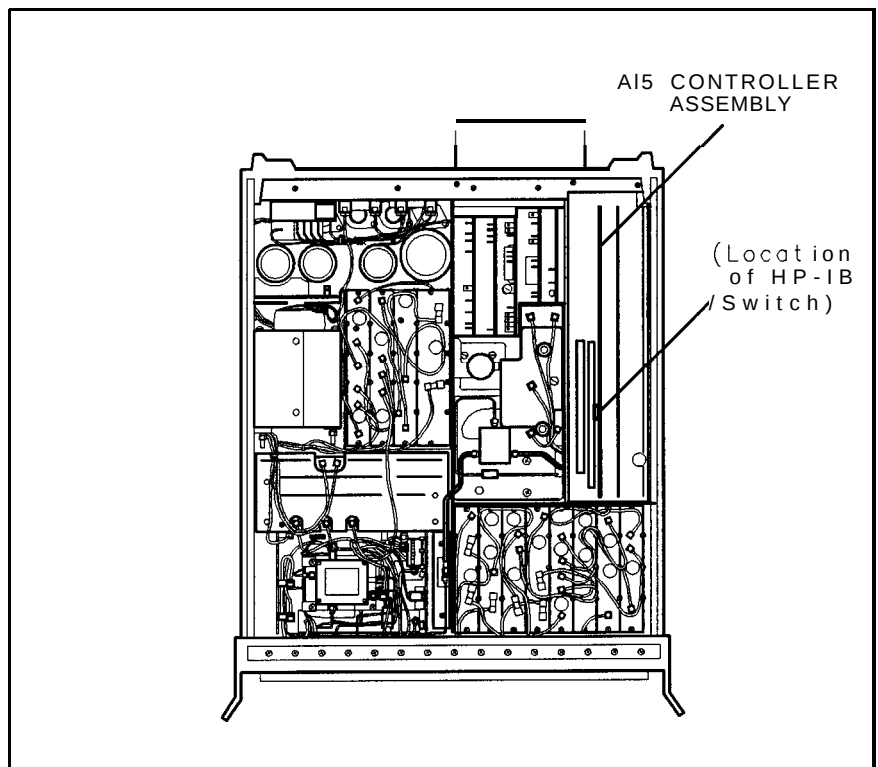
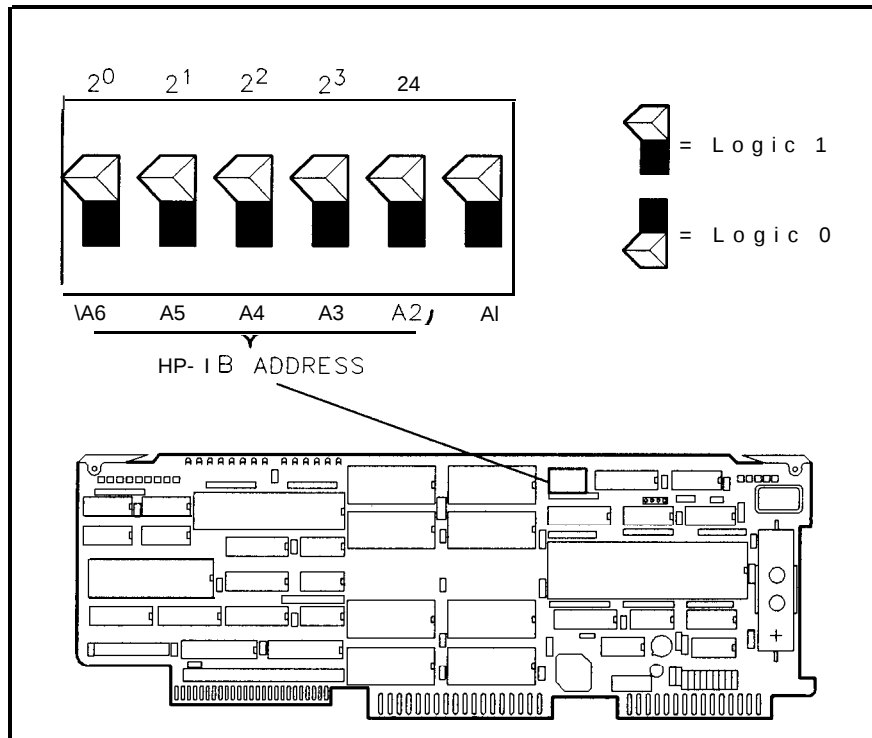

Figure 2-16. Location of AI5 Controller Assembly
Figure 2-17. Address Switch (Shown In Factory Preset Position)
4. Remove the cover from the AI5 controller assembly. See Figure 2-16 to locate the assembly.
5. Locate the address switch **A15SW1** as shown in Figure 2-16 and Figure 2-17. Change the switch's setting according to the information given below.
The switch comprises six segments, A1 through A6. A1 must always be set to logic 1. Each of the remaining five segments, A2 through A6, corresponds to one of the digits of a 5-digit binary equivalent of the address. See Figure 2-17. The switch is preset at the factory to binary 11111 (decimal 31). This is a special code which commands the instrument to use the last input address (stored in memory) either from the front panel or from HP-IB.